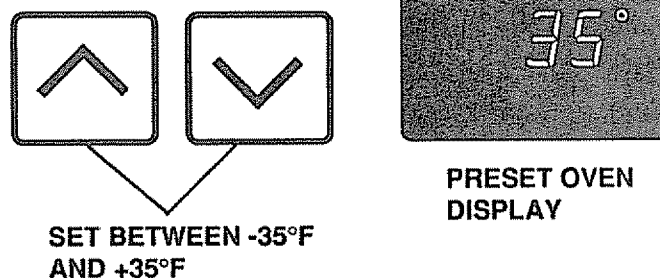

Fig. 3
Continue to hold **BAKE** until the display changes to show the preset oven display. See Fig. 3.
4. The temperature can be adjusted up to +35°F hotter or -35°F cooler. Use the UP or Down arrow to select the temperature adjustment you want. See Fig. 3. The temperature you select is the new preset oven display.